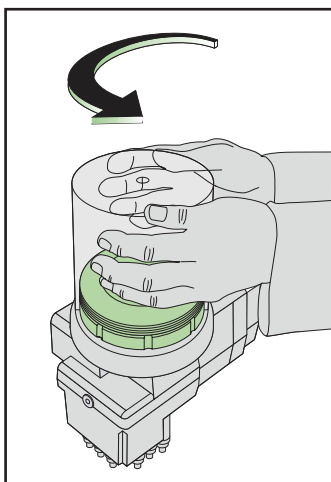

fig.5
1.The transparent cover (Fig 5) has a bayonet connection.